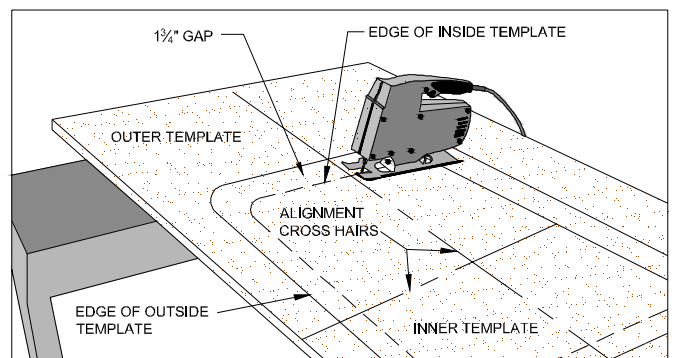

Figure 24D
- Cut or route along the inner line drawn on the template material. (FIG. 24D)